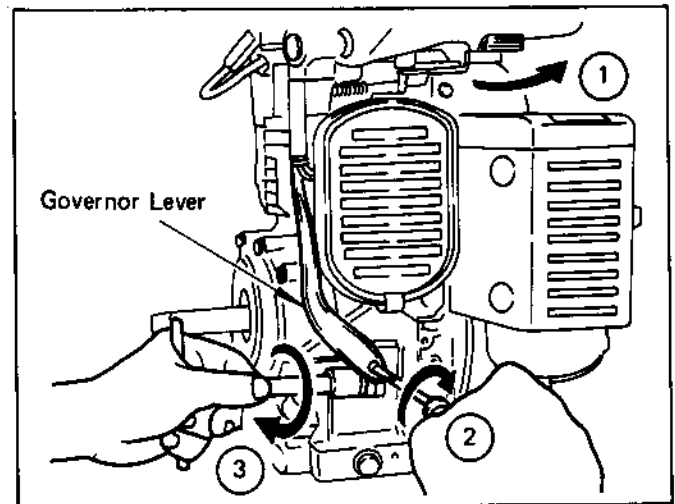

Fig. 53
- 5) With a screwdriver in the groove of the governor shaft, turn it "clockwise" fully until the governor shaft no longer moves, and then lock the governor lever to the governor shaft with the governor lever tightening bolt. (See Fig. 53.)